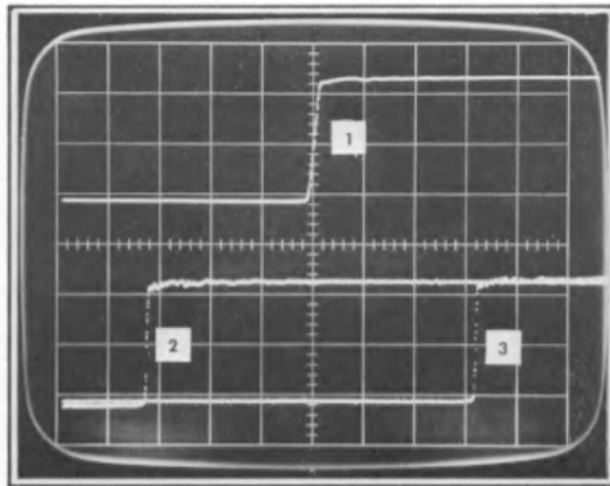

Fig. 7-14. Waveforms for steps 17 and 18, B DELAY control range.
b. Obtain a step display of the signal fed to Channel B. Set the B DELAY control fully counterclockwise and use the sampling sweep unit Time Position controls to move the step so the center of its rise passes to the left of the graticule 2.5 div point; see point no. 1, Fig. 7-14.
c. Turn the B DELAY control fully clockwise. The step display should now be to the right of the graticule 7.5 div point; see point no. 2, Fig. 7-14. Adjust the sampling sweep unit Time Position controls so the two points (no. 1 and no. 2 of Fig. 7-14) fall equal distances on the left and right of the graticule centerline.
d. Move the sampling head to Channel A with the signal cable. The step display should now be at the graticule centerline: see Fig. 7-14, point no. 3. If not, adjust the A